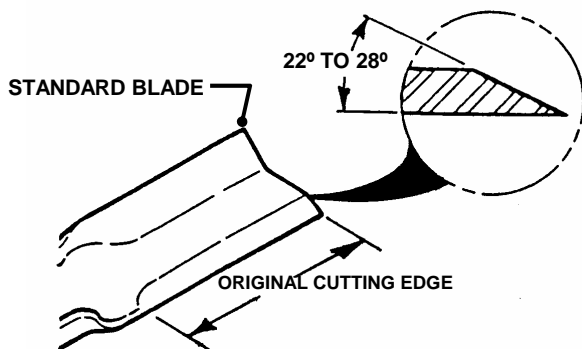

FIGURE 4.19
5. If a blade is in good condition, sharpen cutting edge at an angle of 22 to 28 degrees. DO NOT sharpen beyond existing cutting edge. Replace blades not in good condition. See Figure 4.19.